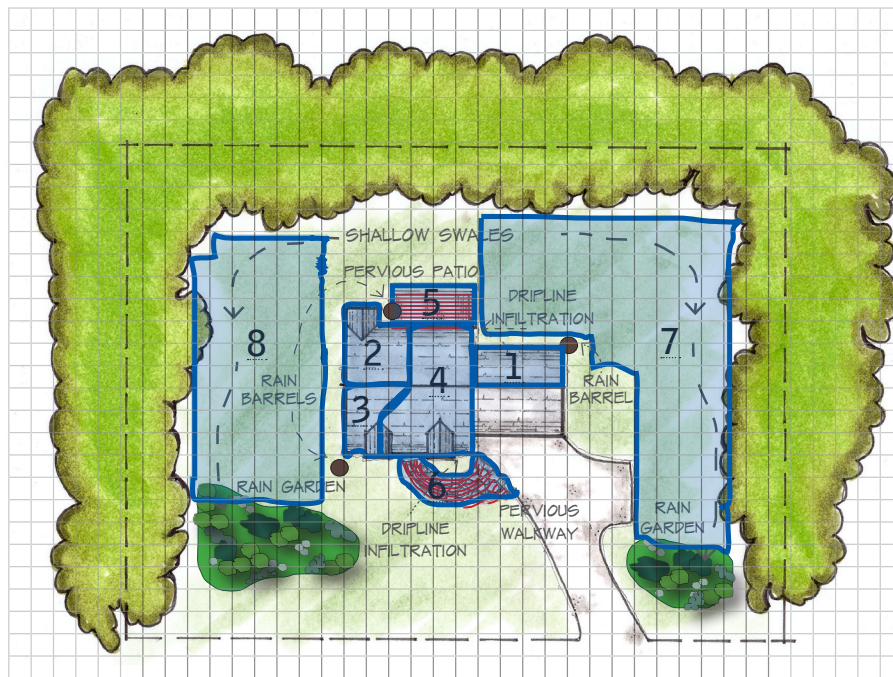

Figure 7. Estimate the drainage area within each boundary line.
3. To estimate the size of the drainage area to each stormwater endpoint, you can use the measurements that you recorded on your Project Planning Worksheet to estimate the average area within each boundary line, or if you used the **Site Sketch Grid** in Appendix C, you can count the squares within each boundary line. The example property in figure 7 is a 1-acre lot. This makes each grid box approximately 50 ft². The estimated drainage areas to each stormwater treatment practice are summarized in Table 1 below.